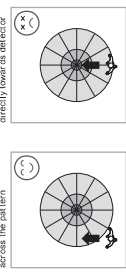

FIG. 3
- 3.1.2 Pay attention to the walking direction during the test. The detector is sensitive to movement that is directly across the detector and less sensitive to movement directly towards to detector which will reduce the detection coverage (See FIG.3).